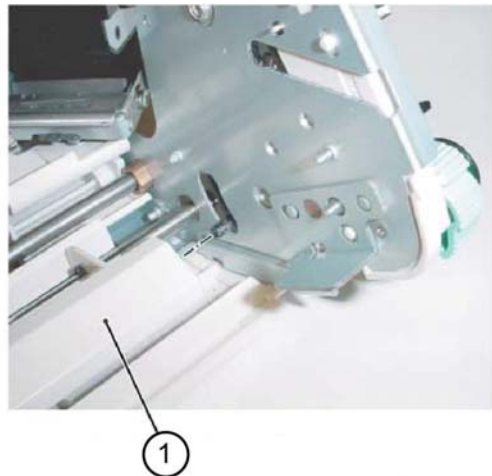

Figure 9 Paddle link assembly installation
2. Install the paddle link assembly (1) as shown in Figure 9.